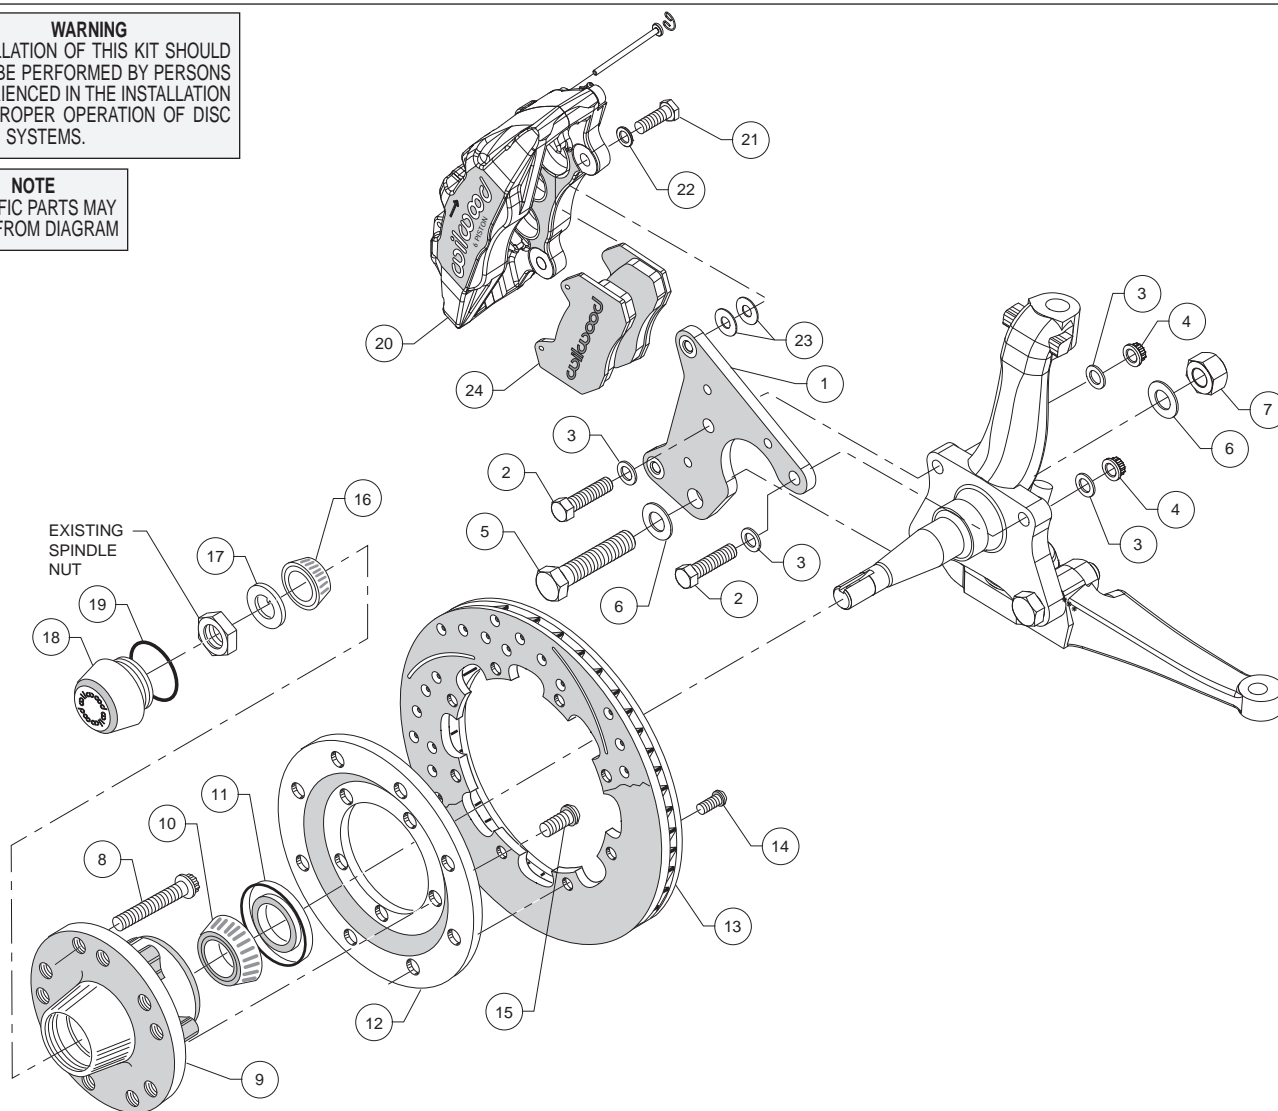
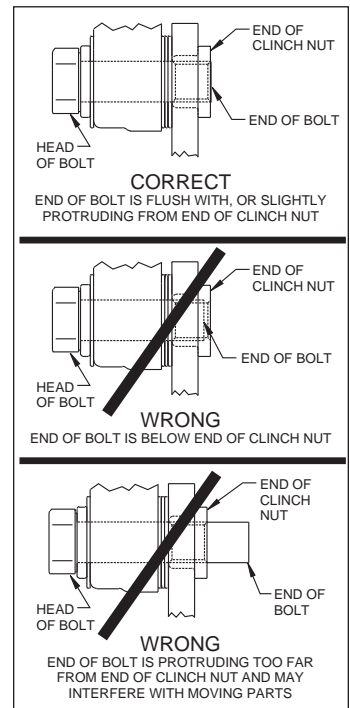

Figure 1. Typical Installation Configuration
Figure 3. Clinch Nut Engagement Diagram
Assembly Instructions (numbers in parenthesis refer to the parts list, on the preceding page and Figure 1): **CAUTION:** All mounting bolts must fully engage clinch nuts. Be sure to check that all bolts are either flush or protruding through flanged side of clinch nut after shimming, Figure 3.
- Orient the caliper mount bracket (1) as shown in Figure 1 and Photo 1, and install using bolts (2), washers (3), and nuts (4) on the top holes and bolt (5), washers (6), and nut (7) on the bottom hole, Figure 1 and Photo 1. Temporarily tighten the mounting bolts. Ensure that the flanged heads of the clinch nuts in the bracket are facing outboard, Photo 1. **NOTE:** The bracket must fit squarely against the mounting points on the spindle. Inspect for interference from casting irregularities, machining ridges, burrs, etc. Remove nuts one at a time, apply red *Loctite*® 271 to bolt threads and torque nuts (4) to 47 ft-lbs. and nut (7) to 140 ft-lbs.
- Pack the large inner bearing cone (10) with high temperature disc brake bearing grease (available from your local auto parts store) and install into the backside of the hub (9), Photo 3.
- Install the grease seal (11) by pressing into the backside of the hub (9), flush with the end of the hub, Photo 3.
- Orient the rotor (13) and the rotor adapter (12) as shown in Figure 1 and Photo 4. Attach the rotor to the adapter using bolts (14). Using an alternating sequence, apply red *Loctite*® 271 to the threads, and torque to 25 ft-lb.
- Mount the adapter/rotor assembly (12/13) to the hub (9) using bolts (15), as shown in Figure 1 and Photo 5. Using an alternating sequence, apply red *Loctite*® 271 to the threads, and torque to 55 ft-lb.
- NOTE:** Please reference the caution statement at the beginning of the assembly instructions. This kit contains distinct right and left hand calipers that must be mounted in a specific direction, as described below. Mount the caliper (20) onto the caliper mounting bracket (1) using bolts (21) and washers (22), as shown in Figure 1. Initially place two .035" thick shims (23) on each bolt between the caliper and the bracket, Photo 8. Ensure that the caliper is mounted so the largest pistons are at the rotor exit end of the caliper, in relation to the direction of rotor rotation. Temporarily tighten the mounting bolts and view the rotor (13) through the top opening of the caliper. The rotor should be centered in the caliper, Photo 9. If not, adjust by adding or subtracting shims between the bracket and the caliper. Always use the same amount of shims on each of the two mounting bolts. **NOTE:** The end of each bolt must be flush with or slightly protruding from the head of the clinch nut, as shown in Figure 3. If necessary place spare shims between washer (22) and caliper mounting ear to achieve the proper clinch nut engagement. Once the caliper alignment and clinch nut engagement are correct, remove the caliper.
- Remove the two pad retaining pins from the caliper (20) by carefully popping out the pin retaining clips and sliding out the pins. Insert the brake pads (24) into the caliper from the bottom, Figure 1 and Photo 10, with the friction material facing the rotor. Secure the brake pads in place with the pad retaining pins and clips, Photo 11. Reinstall the caliper onto the caliper mounting bracket. Apply red *Loctite*® 271 to bolt threads (21), and torque to 40 ft-lb.